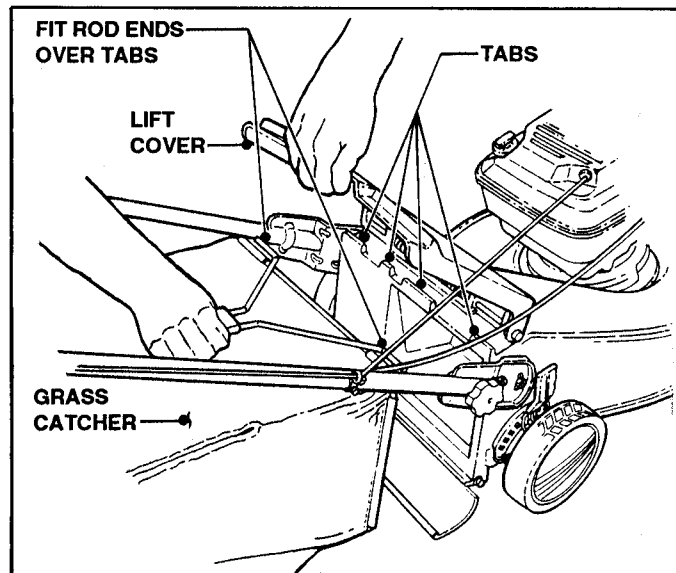

FIGURE 8
3. Grasp handle and hold *Grass Catcher* up while inserting rod ends over tabs at rear of mower deck. See Figure 8.